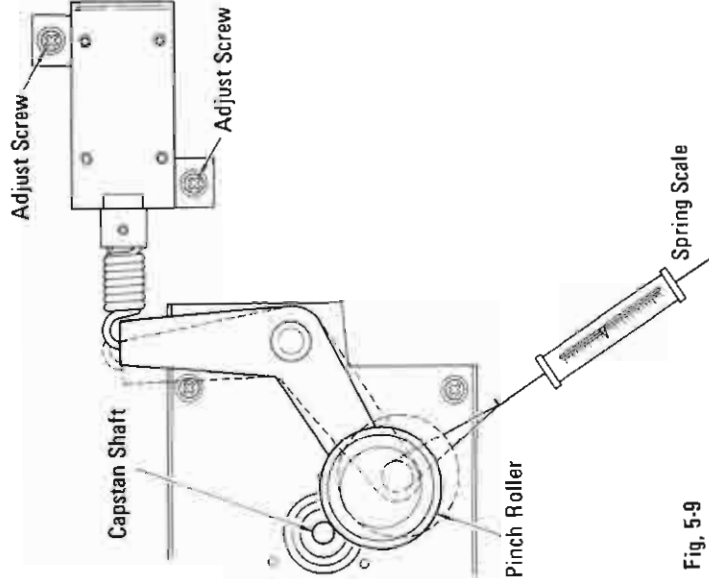

Fig. 5-9
3. Attach a spring scale to the pinch roller as shown in Fig. 5-9.